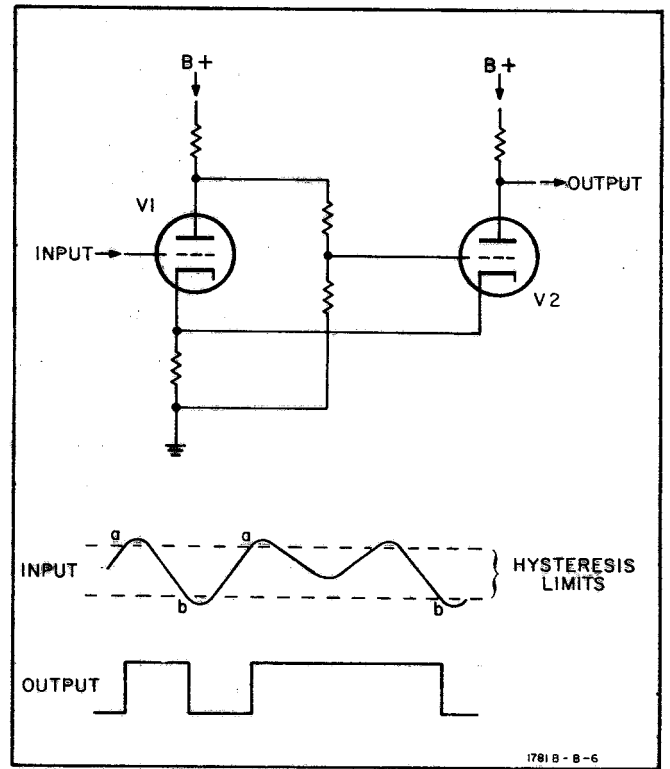

Figure 4-4. Simplified Schmitt Trigger and Waveform
**4-28.** The Schmitt trigger circuit is a form of bi-stable multivibrator used where fast-rising signals are required. Figure 4-4 shows a simplified Schmitt circuit and input and output waveforms. If initially the input voltage is such that V1 is cut off, V2 conducts. As the input voltage becomes more positive, it will eventually reach a predetermined level (a) at which the circuit changes state; V1 conducts and V2 is cut off. If the input voltage then goes negative, the common cathode potential decreases and V2 grid goes positive. When the input reaches a second predetermined level (b), V2 conducts and the circuit switches back to its initial state. The output of the circuit is a voltage step, either positive or negative depending upon the slope of the input.